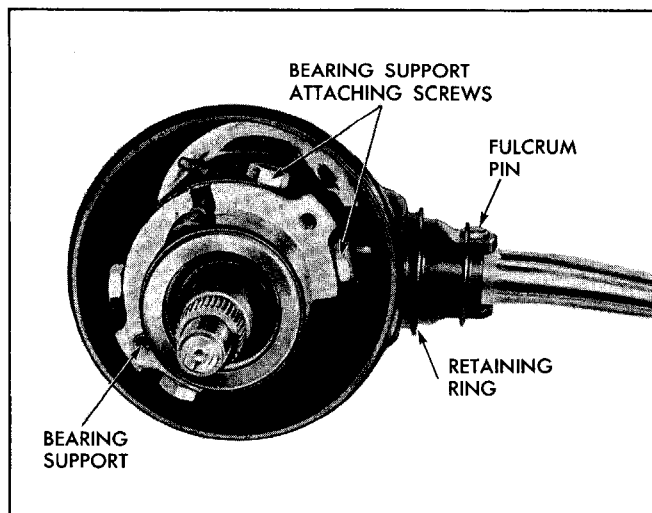
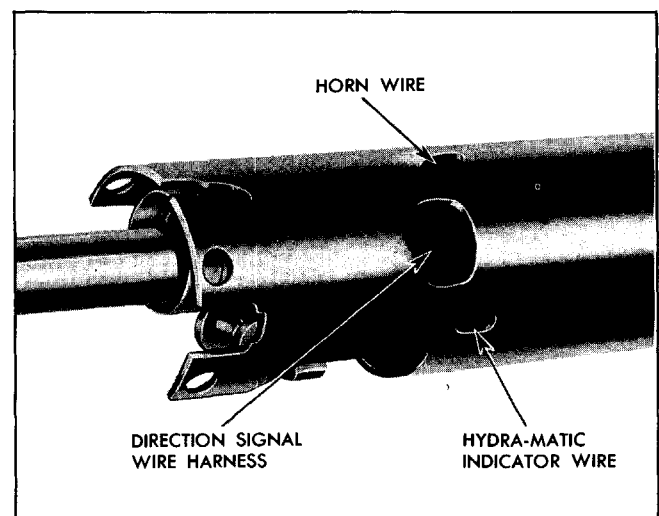

Fig. 7-10 Upper Steering Column
Fig. 7-17 Openings for Wiring in Steering Column Jacket
4. Using a $\frac{7}{16}$ " wrench remove four special screws which fasten gearshift lever bearing support to steering column (Fig. 7-10). On Hydra-Matic models friction spring and button will come off with two lower screws.
6. Remove gearshift lever fulcrum pin retaining ring and fulcrum pin (Fig. 7-10) and remove gearshift lever, being careful to catch anti-rattle shims which may be between shift lever and shift lever support. Remove anti-rattle spring from end of gearshift control lever. NOTE: Retainer spring on tube yoke pin which shift lever slot engages is used to keep pin from dropping out during assembly.
10. Press horn contact and cable assembly in place over annular grooves in upper end of bearing support (die casting). Cable should lay in slot in side of bearing support (Fig. 7-10).
11. Install gearshift lever support and bearing assembly indexing gearshift tube yoke with gearshift lever support and indexing bearing support with attaching screw holes in steering column. While gearshift lever support is being lowered into position, guide horn wire and Hydra-Matic indicator wire into steering column jacket through openings (Fig. 7-17), and back out of jacket through hole on top of jacket just below steering column upper bracket. Horn wire must be clamped in position shown in Fig. 7-10.